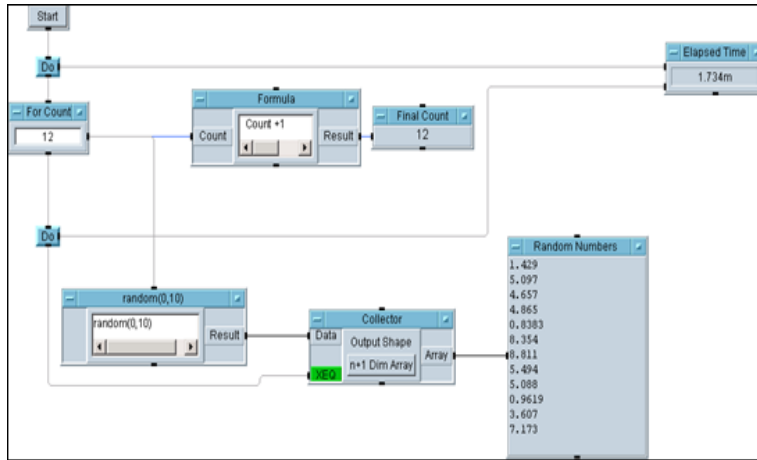

Figure 1-23 Generating and monitoring random data
- 5 Run this program; it should look like Figure 1-23.